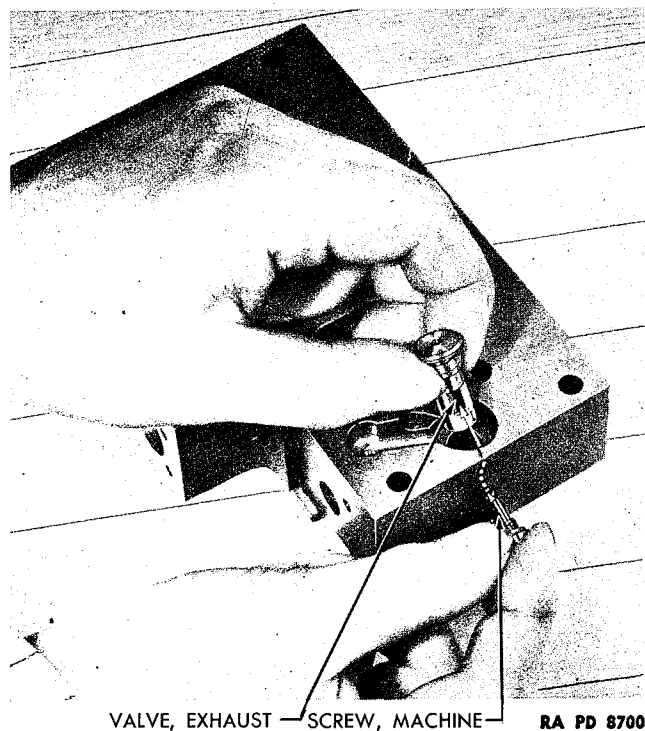

Figure 128 — Installing Exhaust Valve
Install low servo exhaust valve (JJ) and exhaust valve spring (HH) in valve body (fig. 128). Lock low servo exhaust valve in place by installing round-head machine screw in side of valve body. Make sure that screw enters slot in low servo exhaust valve and that valve operates freely after screw is installed.
- (7) **INSTALL MANUAL CONTROL VALVE.**